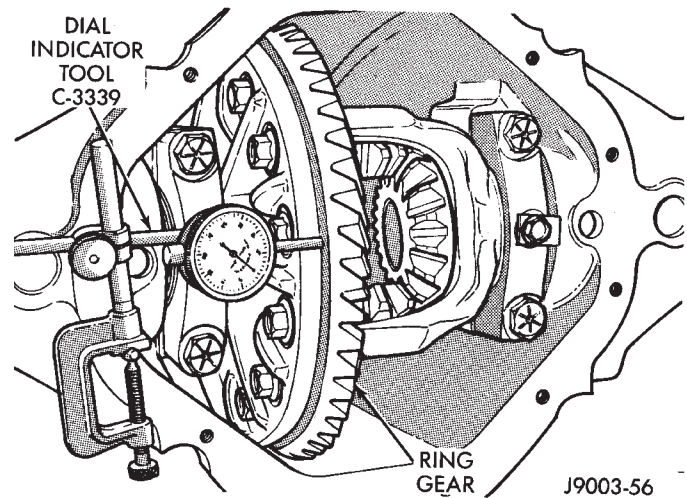

Fig. 10 Ring Gear Runout Measurement
(3) Eliminate any side play in the differential case. Attach Dial Indicator to Pilot stud C-3288-B. Place the indicator plunger at a right angle (90°) to the ring gear (Fig. 10). The plunger should exert a slight force against the gear face.
(4) Measure runout by turning the ring gear several complete revolutions. Observe the dial indicator pointer. Mark the ring gear and the differential case at the areas of maximum runout. The ring gear runout should not exceed 0.13 mm (0.005 inch). If the runout exceeds 0.13 mm (0.005 inch), a damaged differential case could be the cause.